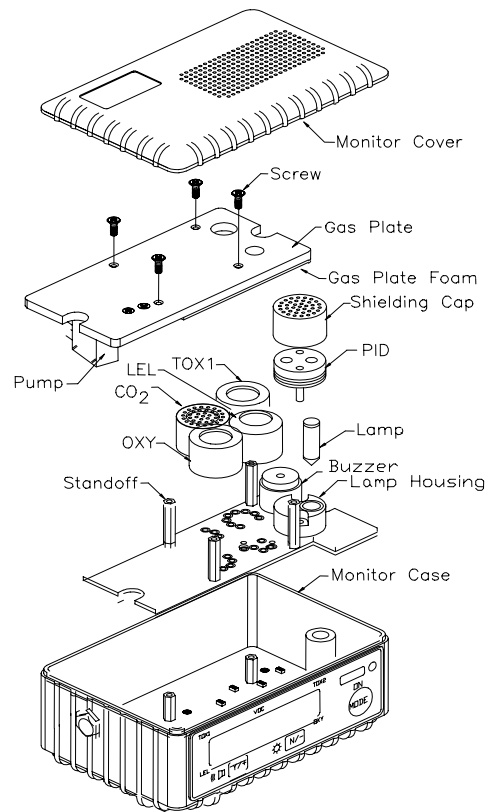

Figure 7-2 Sensor Assembly of MultiRAE IR
3. Referring to Figure 7-2, carefully unscrew four No. 2 screws that hold down the gas piping plate to the analog PCB and sensors. Remove the gas piping plate.
The sensor module is made of several components and is attached to the lamp housing unit as shown in Figure 7-2. If the lamp does not turn on, the monitor will display an error message of “Lamp” to indicate cleaning or replacing of the lamp is required. Periodic cleaning of the lamp window will also remove film deposits and restore lamp sensitivity. **Care must be exercised when cleaning the window surface so that it will not be damaged.**
9. Referring to Figure 7-2, install the gas piping plate and tighten the four screws to hold down the sensors. Reconnect the battery pack. Install the monitor cover.
2. Referring to Figure 7-2, open the monitor cover, **disconnect the battery pack**, carefully unscrew four No. 2 screws that hold down the gas piping plate to the analog PCB and sensors. Remove the gas piping plate.
5. Referring to Figure 7-2, replace the gas piping plate and tighten the four screws to hold down the sensors. Re-connect the battery pack. Replace the monitor cover.